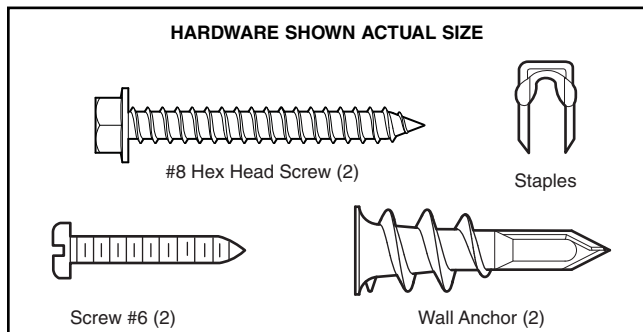

Figure 1
2. Ensure rail surface is clean and adhere lock template to achieve a 3" (7.6 cm) distance between the center of the roller and the pin hole (Figure 1).
1. Position the cable tension monitor as shown (Figures 1 and 2). The cable tension monitor should be located as close to the drum as possible.
**NOTE:** If the cable tension monitor can not be mounted into wood with the lag screws provided, it can be mounted into 1/2" or greater drywall using the wall anchors (2) and the #8 hex head screws (2) provided in the hardware bag.